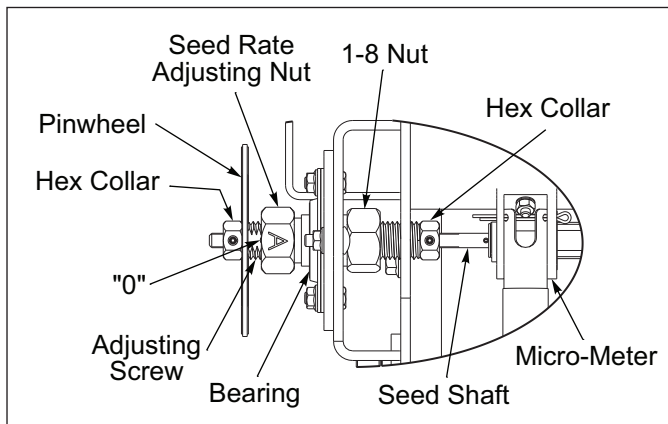

Figure 4-16: Micro-Meter Seed Box Rate Adjuster
All Seed Meters must be set the same to ensure uniform seeding. To check, set the Seed Rate Adjusting Nut to 0-A. The "A" on the Seed Rate Adjusting Nut is positioned over the "0" (the nut covers half of the "0") and snug against the Bearing. See Figures 4-16 and 4-17.
1. **Micro-Meter Box:** Hex Collar with Set Screws on both ends of the Adjusting Screw are used to adjust all Seed Meters the same amount. See Figure 4-16. To adjust Seed Meters to be closed at "0A", loosen Hex Collars with Set Screws (remove set screws first) and set Adjusting Screw to "0A". Slide Seed Shaft to close all Seed Meters. Tighten Hex Collars with Set Screws against Adjusting Screw and install set screws to lock against Seed Shaft flats. *Once adjusted DO NOT loosen or adjust the Hex Collars.*